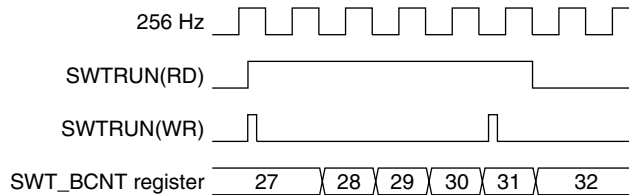

Figure 13.5.2 Run/Stop Control Timing Chart
- The timer switches to Run/Stop status synchronized with the 256 Hz signal falling edge after data is written to SWTRUN. When 0 is written to SWTRUN, the timer stops after counting an additional “+1.” 1 is retained for SWTRUN reading until the timer actually stops. Figure 13.5.2 shows the Run/Stop control timing chart.